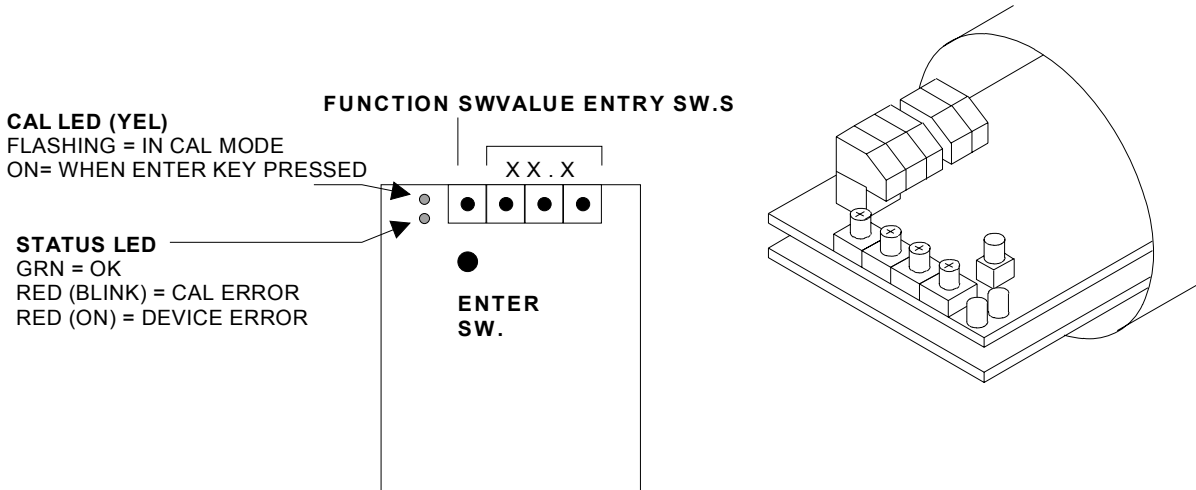

Figure 3.0
2. If the status LED (see figure 3.0) is RED	This indicates a major error such as memory failure, no probe signal etc. Check the following: <ul style="list-style-type: none"> • Microprocessor may have lost its parameters due to a surge in the line. Go into cal mode and adjust function to 9. Set value switches to 001 and press the cal button. If status light goes back to green then parameters have been reset. • Call Arjay Technical Support.